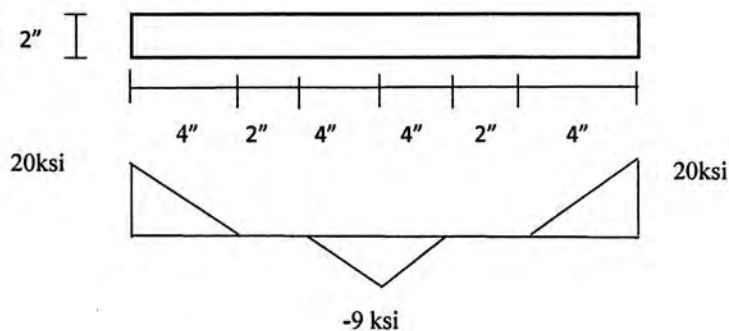

Figure 2
2. The residual stress for a 20 x 2 inch plate to be used as a tension member is shown in Fig. 2. Derive the equation for stress-strain behavior in tension of the plate. Given, $F_y=36 \text{ ksi}$, $E=30,000 \text{ ksi}$. (20)